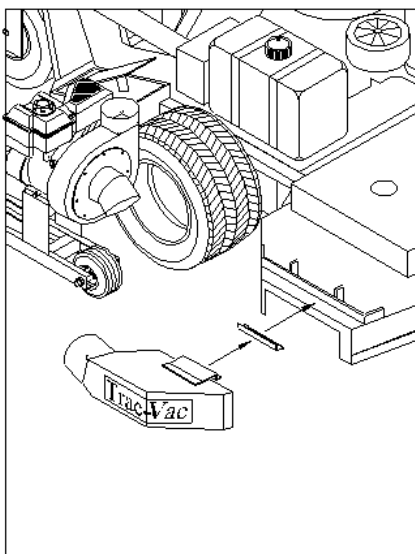

Fig. 15
15. Attach chute to deck opening on tractor with pins or bolts supplied. **Fig. 15**